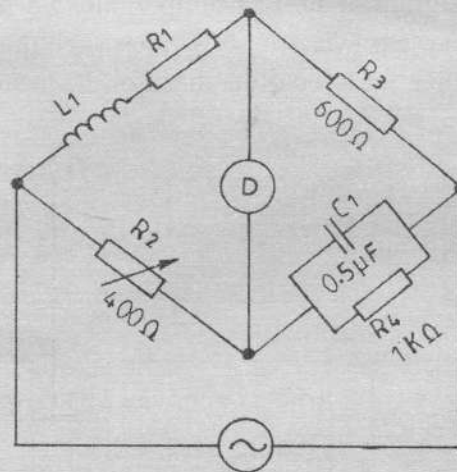

Fig. 1
- (ii) Show that one unit of charge (Q) in cgs electromagnetic units is equal to one unit of charge in MKS units.
- (i) charge (Q) in e.s.u;
- (ii) magnetising force (H) in e.m.u.
3. (a) Describe the procedure of measuring the depth of modulation of an amplitude modulated (AM) wave using an oscilloscope with the internal timebase switched off and sketch the displayed waveform. (6 marks)
- (ii) Figure 1 shows a circuit diagram of an a.c. bridge.
- (I) Derive the bridge equation at balance.
- (II) Determine the value of  $R_1$  and  $L_1$ .